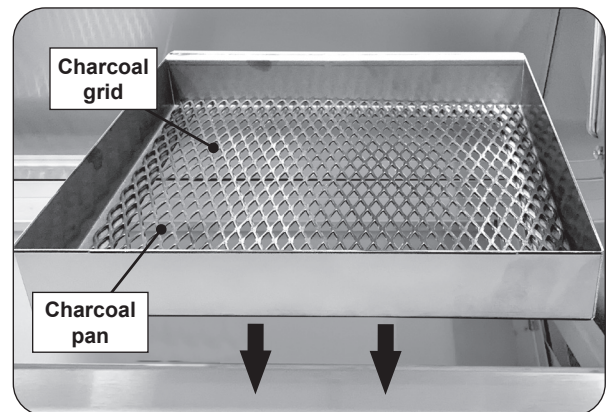

Fig. 12-3 Install charcoal pan
2. Take the tray with grid, carefully orient it inside the grill, and rest it on the cranking frame. See Fig. 12-3.